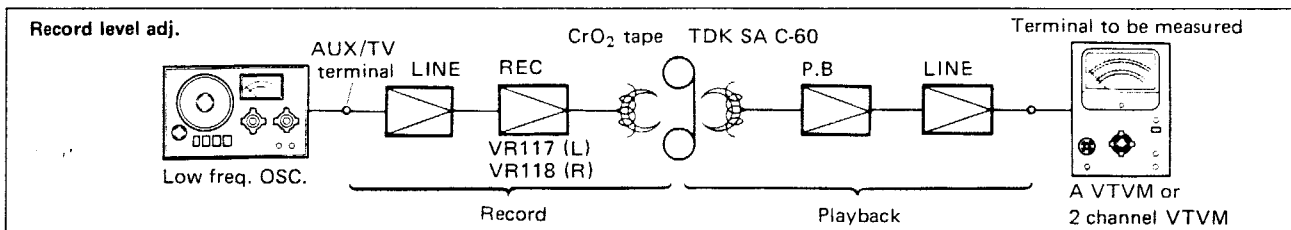

Fig. 9
**(2) Record level adjustment** (Refer to Fig. 9)